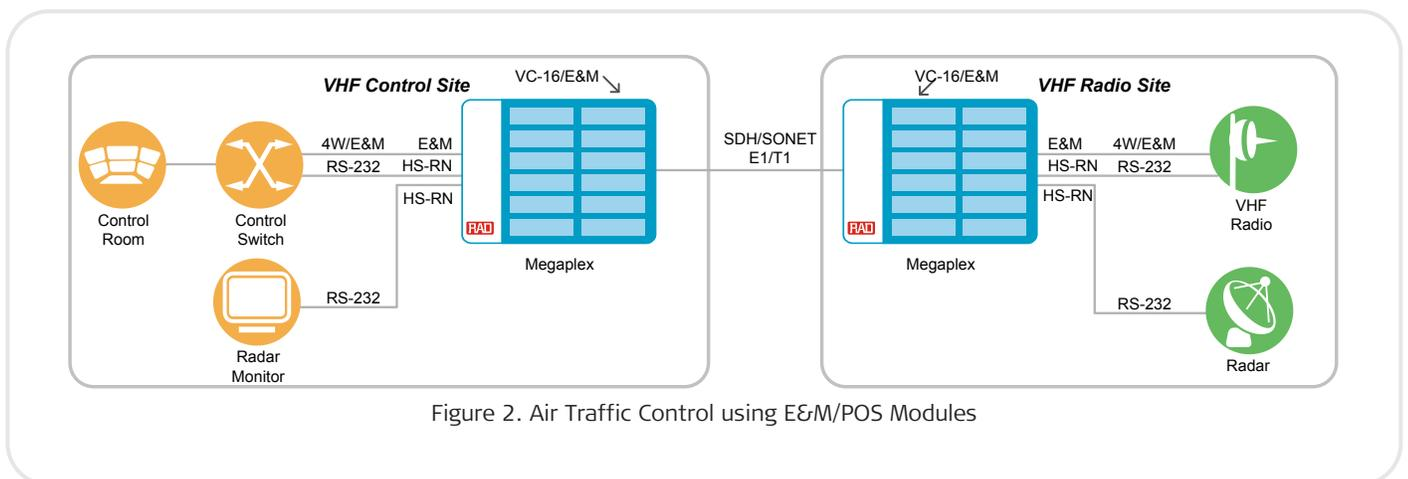

Figure 2. Air Traffic Control using E&M/POS Modules
*Figure 2* illustrates a typical air traffic control (ATC) system, where the **E&M/POS** modules enable maintaining constant contact between the ATC center and remote airport radio stations. In this application, Megaplex enables communications between air traffic controllers and pilots and provides a broad range of ATC equipment connections, including intercom, telephone services and radar monitoring.